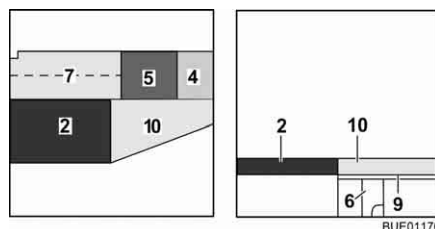

Fig. 132 After conversion
- Place the seat cushion (Fig. 132,5) in the centre.
- Place the back cushion (Fig. 132,4) between the seat cushion and the wall.
- Place the additional cushion (Fig. 132,10) on the bed widening.